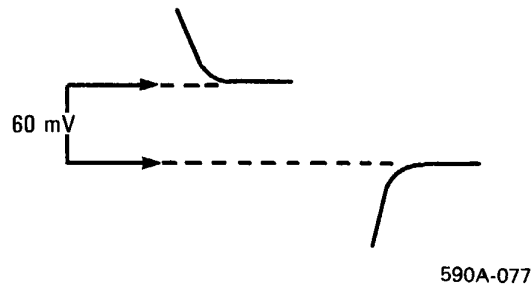

Figure 2. Dead Zone Adjustment Waveform
- e. Adjust A18R140 so that the separation between the attack and decay waveforms is 60 mV ± 5 mV, see figure 2.